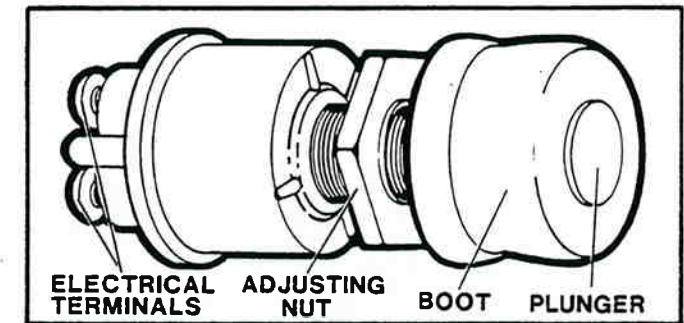

Figure 9-14. Clutch Switch.
**CLUTCH SWITCH** — utilized on vehicles with standard transmission to disengage the cruise control system each time the clutch is depressed. The cruise control will re-engage at the previously selected speed when the clutch is released. This permits the driver to shift gears in the normal manner (figure 9-14).